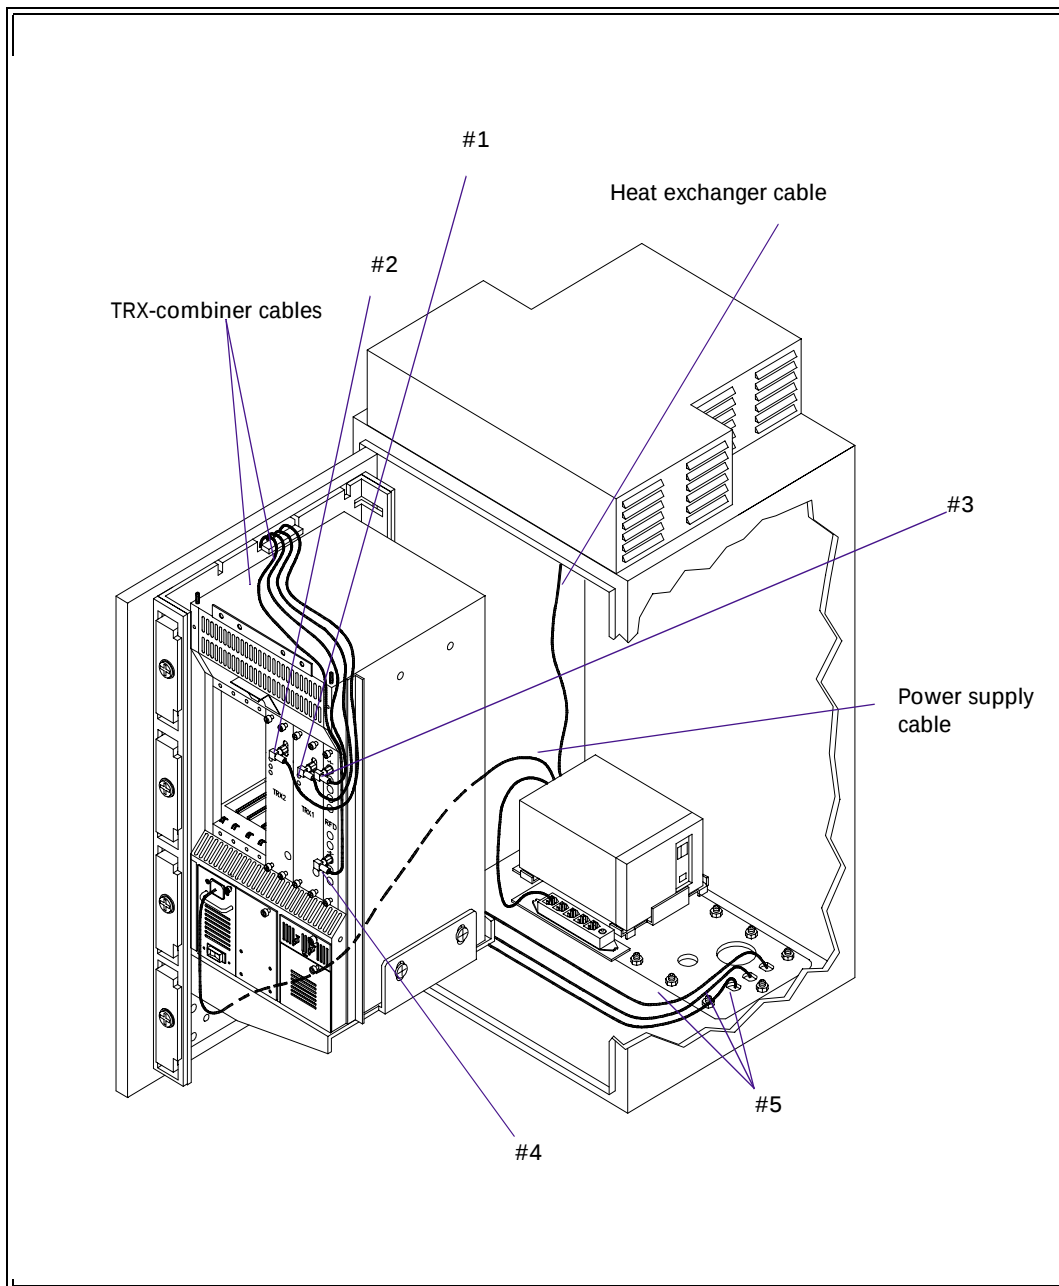
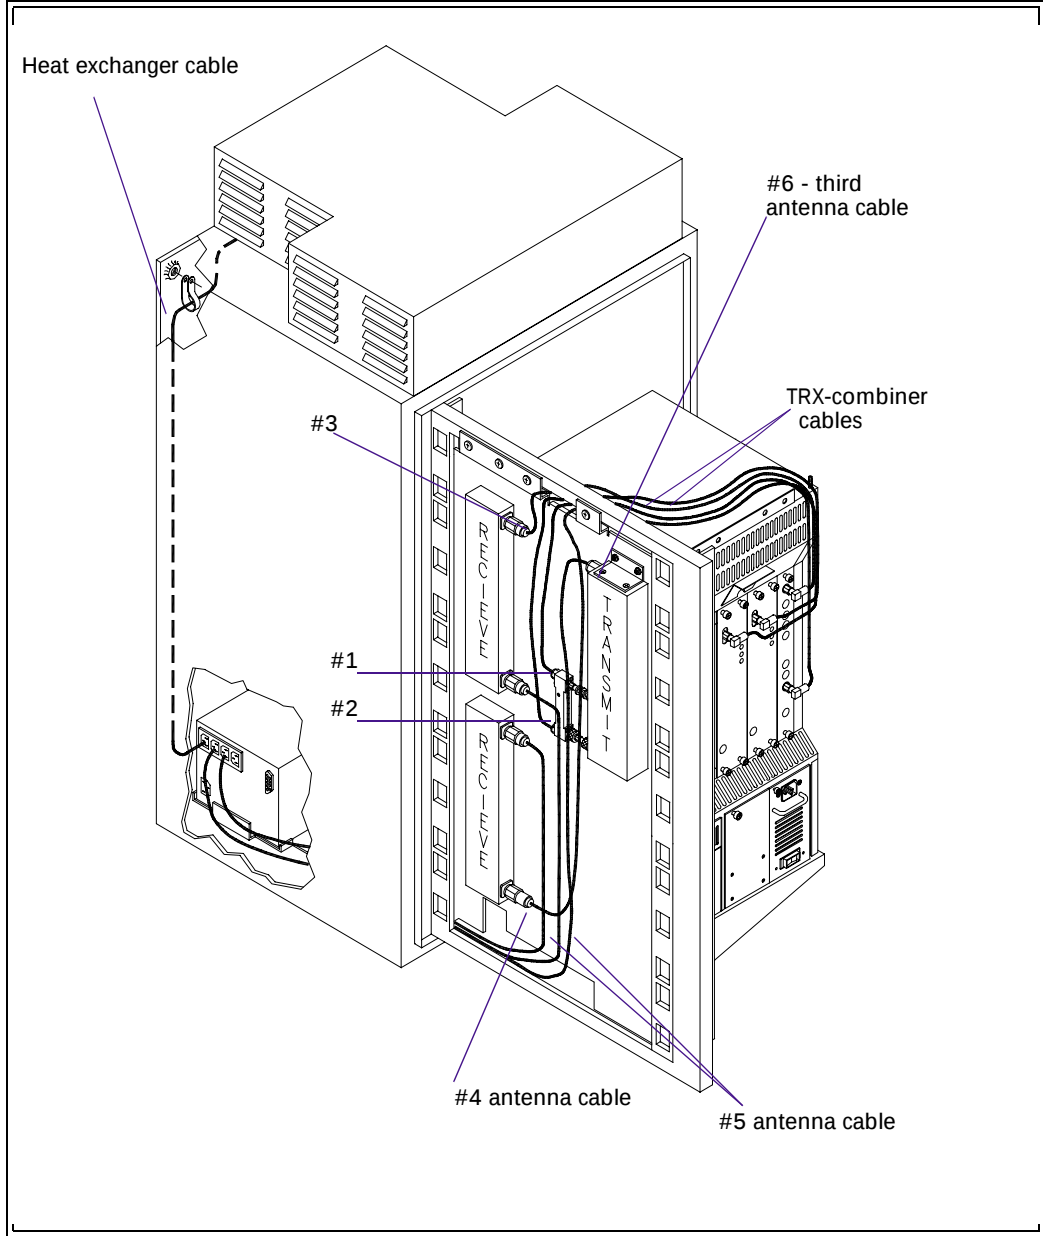

Figure 3-18: WAVExpress/BTS cabling - FRONT VIEW
Figure 3-19: WAVEExpress cabling - BACK VIEW
Use Figure 3-18 : "WAVExpress/BTS cabling - FRONT VIEW" on page 56 and Figure 3-19 : "WAVExpress cabling - BACK VIEW" on page 57 to help you with these instructions. Figure 3-18 displays the front view of the WAVExpress showing all its cabling while Figure 3-19 displays the back view of the swing frame assembly, highlighting the filter and combiner connections.
Step 2 Attach one end of one of these cables (part numbers 740060) to the Transmit port labeled Tx on the TRX card in slot 6 and 7 of the WAVExpress/BTS chassis. (Cable labeled as #1 in Figure 3-18)
- Step 3** Thread the cable over the top of the swing frame, and attach the other end of this cable to the top SMA connector of the hybrid combiner. (Cable labeled as #1 in Figure 3-19)
- Step 4** Attach one end of the second cable (part numbers 740060) to the Transmit port labeled Tx on the TRX card in slot 4 and 5 of the WAVEExpress/BTS chassis. (Cable labeled as #2 in Figure 3-18)
- Step 5** Thread the cable over the top of the swing frame, and attach the other end of this cable to the bottom SMA connector of the hybrid combiner. (Cable labeled as #2 in Figure 3-18)
- Step 6** Locate the two cables marked with part numbers 740054, and having a SMA connector at one end and a N-type connector at the other end. (Cable labeled as #3 in Figure 3-18)
- Step 8** Thread the cable over the top of the swing frame, and attach the other end of this cable to the N-type connector of the first receive filter. (Cable labeled as #3 in Figure 3-18)
- Step 9** Attach the SMA connector of one of these cables (part numbers 740054) to the antenna port labeled -2- on the RF Distribution card. (Cable labeled as #4 in Figure 3-19)
- Step 10** Thread the cable over the top of the swing frame, and attach the other end of this cable to the N-type connector of the second receive filter. (Cable labeled as #4 in Figure 3-18)
- Step 12** Connect each of the customer supplied antenna cables to the two receive filters. (Cable labeled as #5 in Figure 3-18)
- Step 13** Connect the third antenna cable to the transmit filter. (Cable labeled as #6 in Figure 3-18).